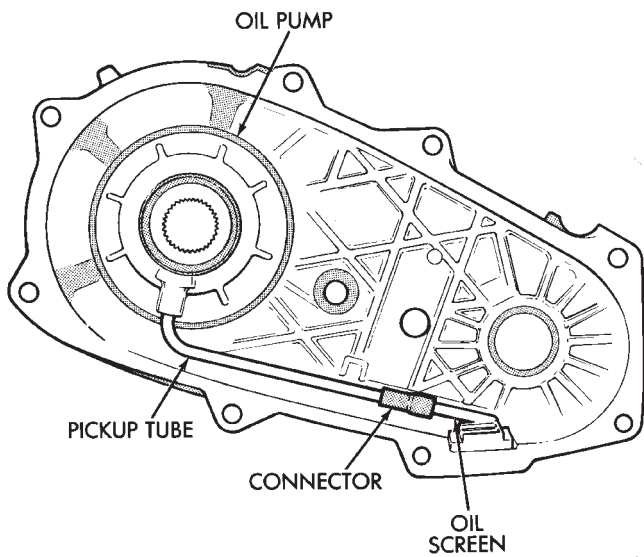

Fig. 85 Oil Screen And Pickup Tube Installation
- (1) Insert oil pickup tube in oil pump and attach oil screen and connector hose to pickup tube. Then install assembled pump, tube and screen in rear case (Fig. 85). Be sure screen is seated in case slot as shown.